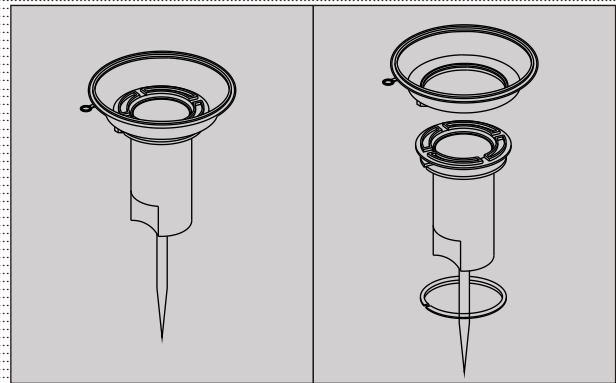

Fig. 4.28
- Remove ring piston valve and carefully remove diaphragm from the piston valve. (Fig. 4.28)